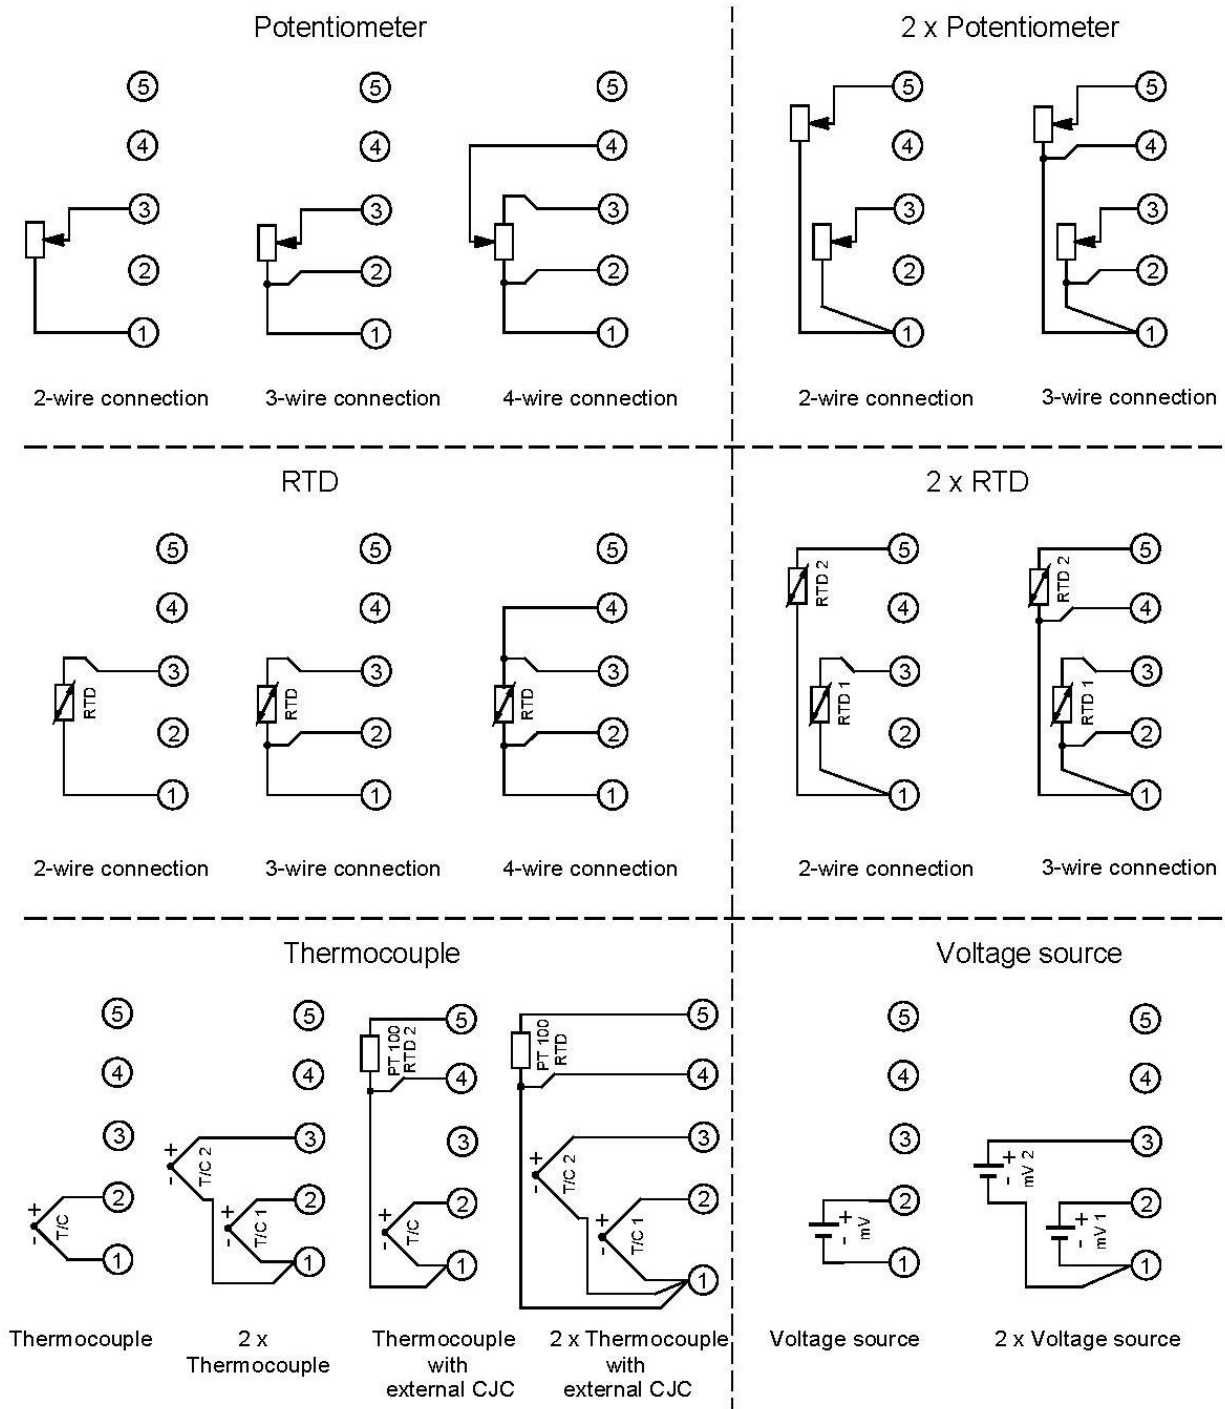

Figure 10. Methods of connecting sensors, potentiometers and voltage sources.
- type of the mathematical function processing the signal from two sensors (2 x RTD 2-wire connection, 2 x RTD 3-wire connection, 2 x thermocouple, 2 x thermocouple with external CJC (see → Figure 10. Methods of connecting sensors, potentiometers and voltage sources.)):